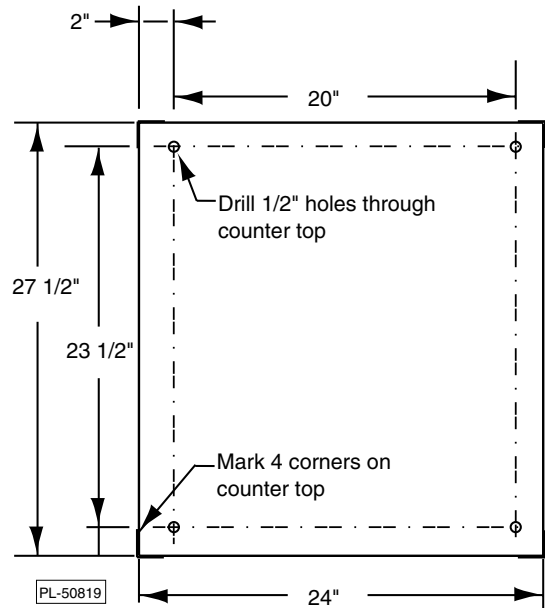

Fig. 1
1. Place steamer in the desired location on the leveled counter top and mark four corners. Remove the steamer and drill $\frac{1}{2}$ " holes as indicated in Fig. 1.